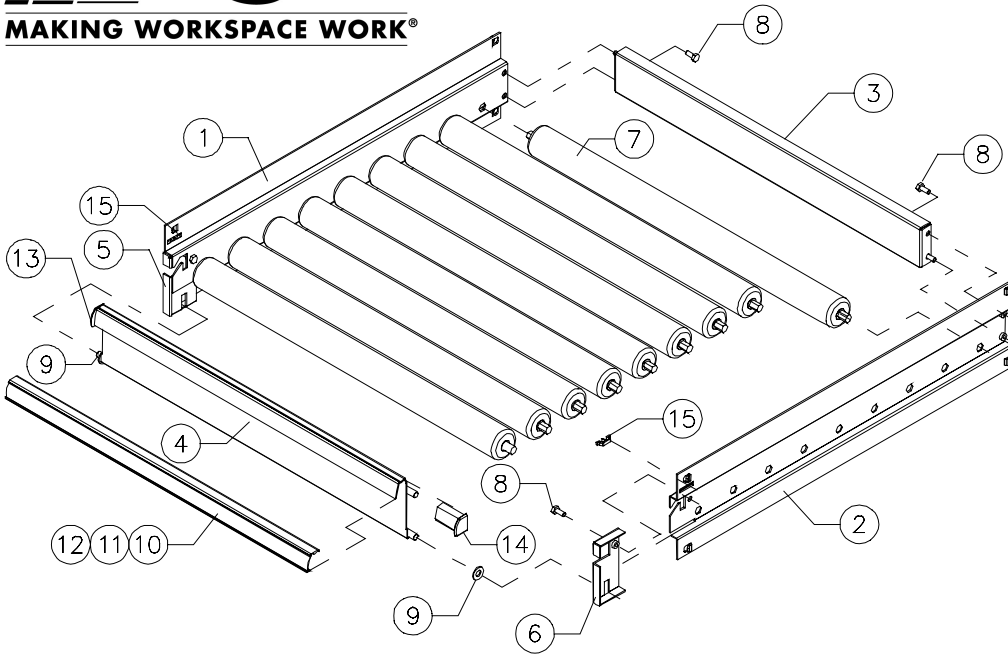

Figure 1 – Exploded view
Note: Follow instructions in the Storage Wall™ Instruction Manual to assemble Storage Wall Sections (if purchased new). Refer to Figure 1 to identify components.
- Refer to Figure 1. Using four ¼-20 x 5/8” hex head bolts (#8), install the back panel (#3). You will need access to the rear of the storage wall. If access to the rear of the storage wall is not available, install the back panel backwards.